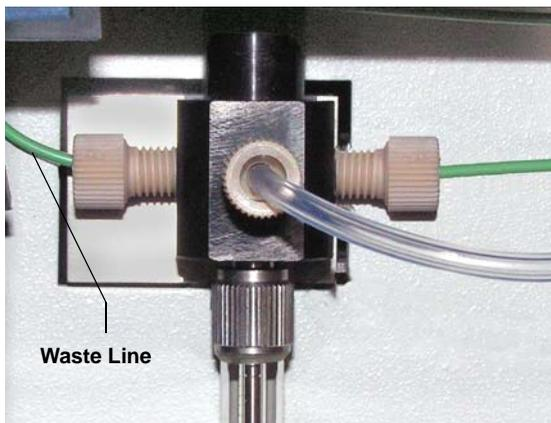

Figure 5-28. Waste Line Connected to the Syringe Valve
2. Disconnect the waste line from the syringe valve (see Figure 5-28).